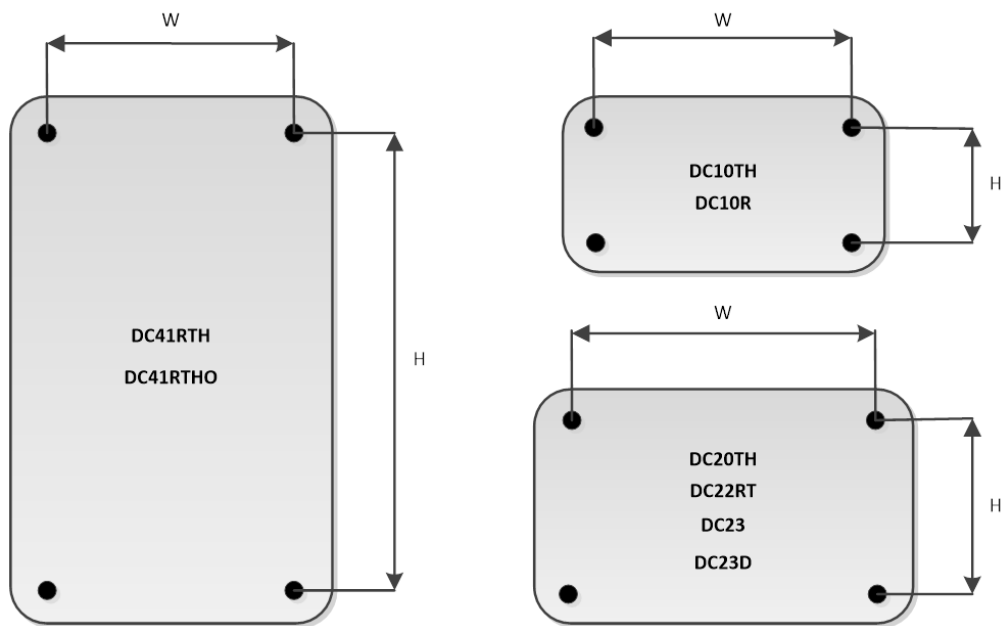

Fig. 3.1 Formats by Display Model
- 1) **Hanged:** Identify the visualizer model in Fig. 3.1 and place 2 of the supplied blocks at the W distance indicated in Tabla 3.1, allowing the screw head to protrude about 4 mm. Hang the display through the upper slot following the zig-zag pattern.